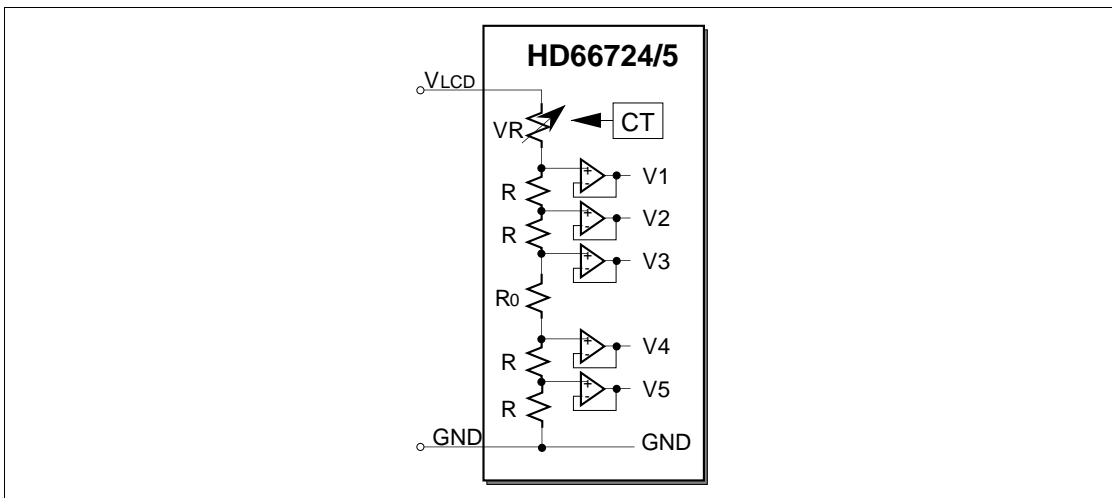

Figure 40 Contrast Adjuster
Contrast for an LCD can be adjusted by varying the liquid-crystal drive voltage (potential difference between V_{LCD} and $V1$) through the CT bits of the contrast control instruction (electron volume function). See figure 40 and table 37. The value of a variable resistor (VR) can be adjusted within a range from $0.1 \times R$ through $3.2 \times R$, where R is a reference resistance obtained by dividing the total resistance between V_{LCD} and $V1$.